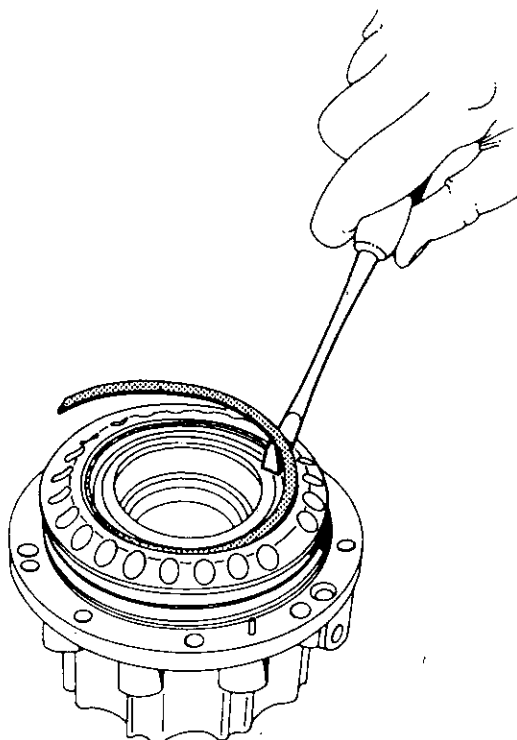

Figure 3.9
16. Remove the front retaining ring (12) from the drive housing, as shown in Figure 3.9.